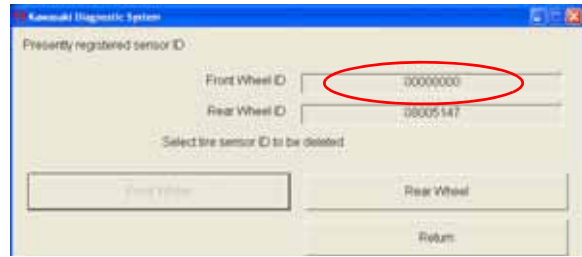

Fig. 5-21 TPMD ID Deletion
- o On Fig. 5-21 the Front Wheel ID is changed to 00000000. Next select **Return**